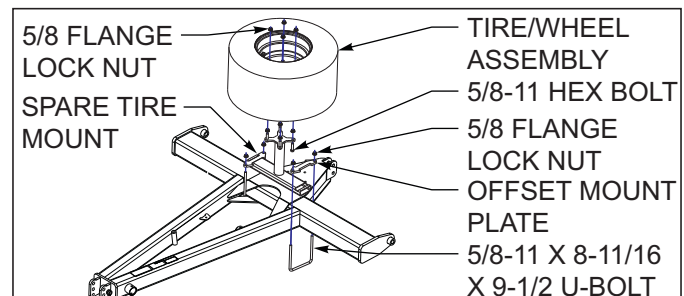

Figure 3-1: Spare Tire Assembly
1. Attach Optional spare tire and mount to rear of hitch as shown (See Figures 3-1)